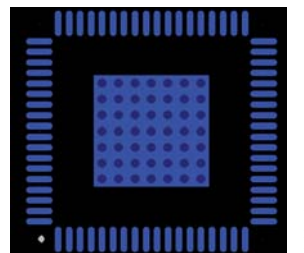

Figure 88. Exposed Pad Layout Example—Top View
- Place vias such that all layers of copper are connected, allowing for efficient heat and energy conductivity. For an example, see Figure 88, which shows 49 vias arranged in a 7 \times 7 grid in the pad area.